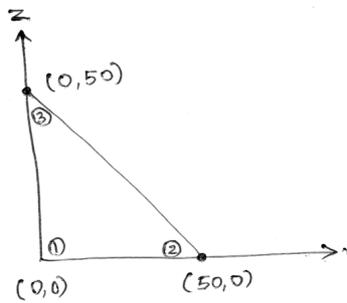

Figure-6
- b) For the axisymmetric element shown in figure-6, determine the stiffness matrix. Let Young's modulus $E=2.1 \times 10^5$ N/mm² and poisson's ratio $\mu=0.25$. All dimensions are in mm.